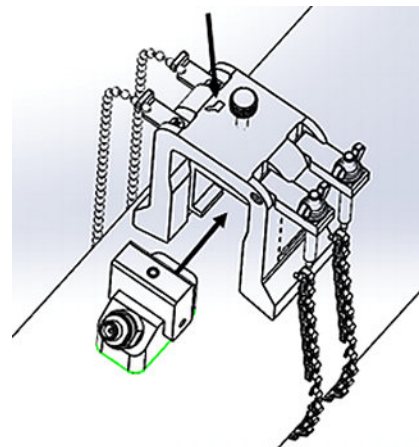

Figure 32: Insert transducer into yoke
8. Loosen the yoke screw. Then, apply couplant to the transducer face and insert the transducer into the yoke, as shown in Figure 32 below.